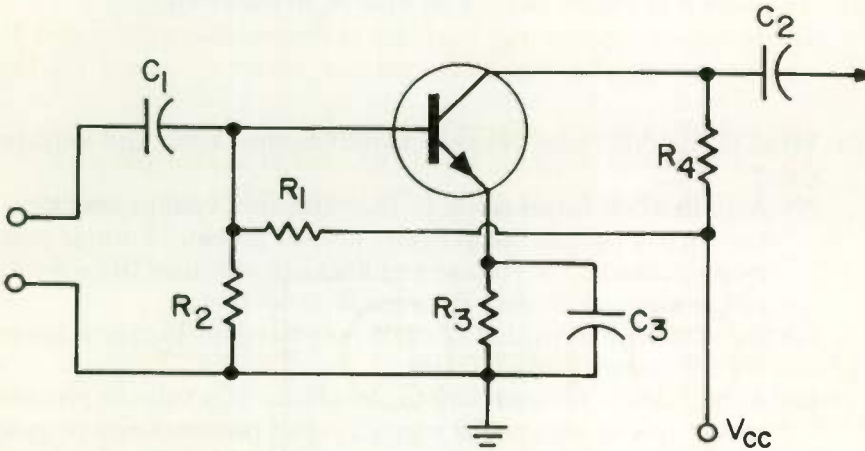

Fig. 37
25. What type of transistor is used in Fig. 37, and what is the correct polarity for V_{cc} ?
- (1) Type is PNP. V_{cc} should be positive
- (2) Type is PNP. V_{cc} should be negative
- (3) Type is NPN. V_{cc} should be positive
- (4) Type is NPN. V_{cc} should be negative
26. What effect will an increase in value of R_4 have on the voltage gain of the stage of Fig. 37? Assume that the change will not affect the gain of the transistor itself.
- (1) The voltage gain of the stage will increase.
- (2) The gain will decrease.
- (3) The gain will not change.
- (4) The gain may either increase or decrease, or possibly stay the same.
27. If R_2 is removed from Fig. 37 and R_1 changed in value so that the base bias current is proper, what will be the effect on the operation of the circuit?